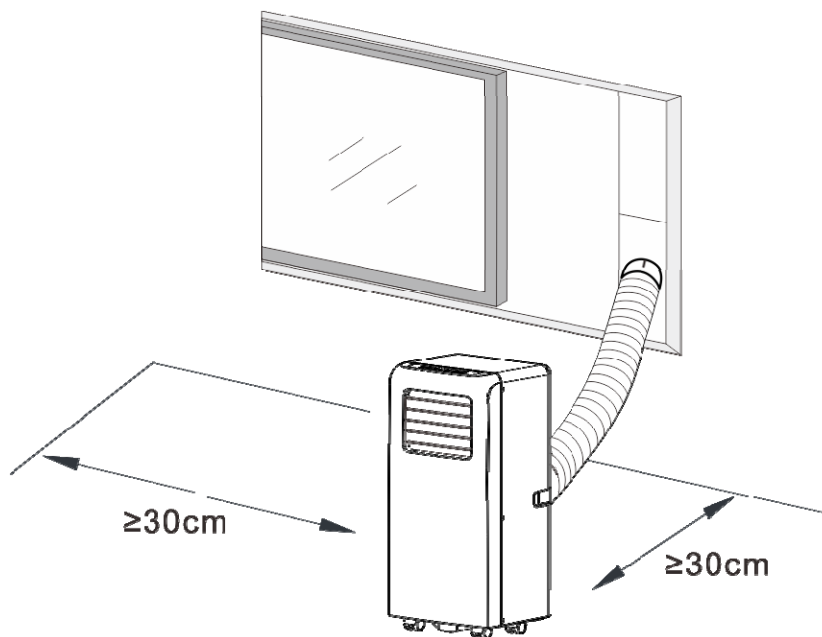

Fig.3
- A removal air-conditioner shall be installed in the flat and empty place all around. Don't block the air outlet, and the required distance around should be at least 30cm. (See Fig.3)